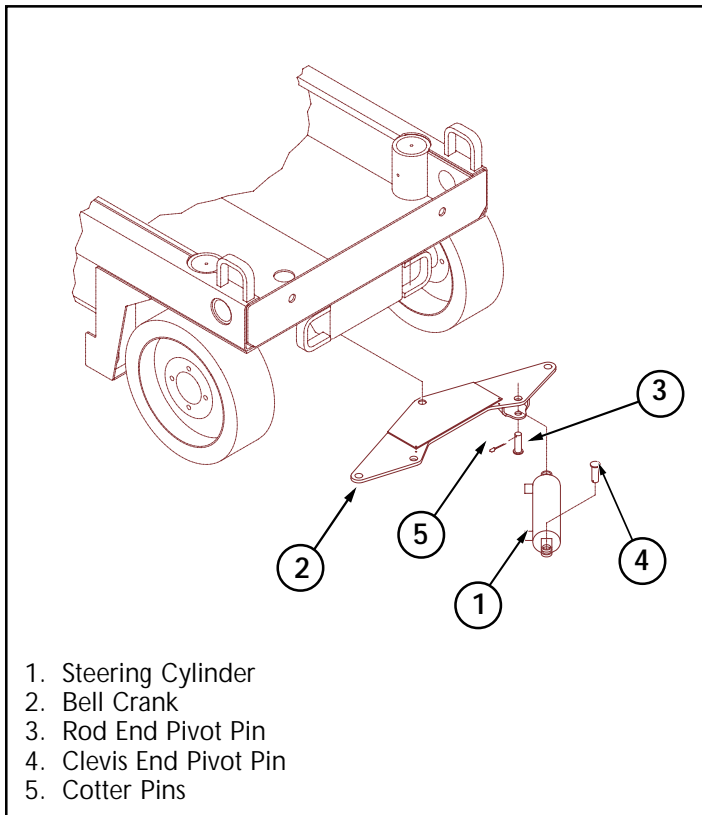

Figure 4-15: Steering Cylinder Installation
4.11 Steering Cylinder (Figure 4-15)